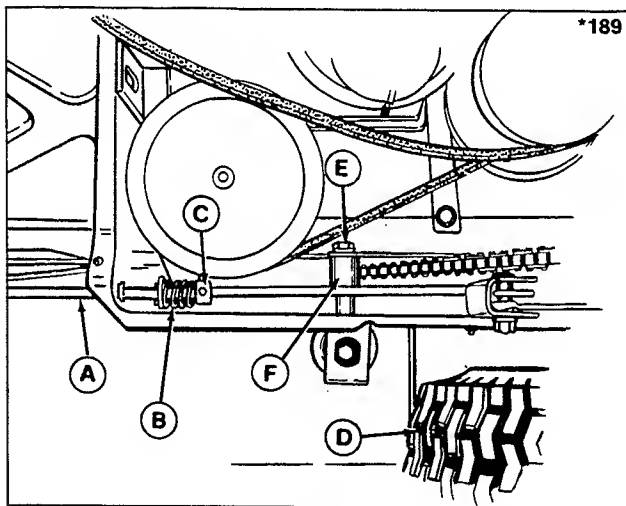

Figure 14. Clutch-Brake Adjustment (Viewed from underneath rider)
2. With the pedal released, measure the length of the spring (B, figure 14). It should be between 1 inch and 1-1/8 inch. If not, loosen the setscrew. Move the set collar to compress or release the spring to attain correct length. Tighten the setscrew and recheck the measurement.
If there is too much slack in the chain, it can be adjusted. Loosen the capscrew (E, figure 14) and nut which hold the spacer (F) in place. Move the spacer toward the chain to tighten. Tighten the capscrew and nut. **Do not adjust chain so it is tight.**